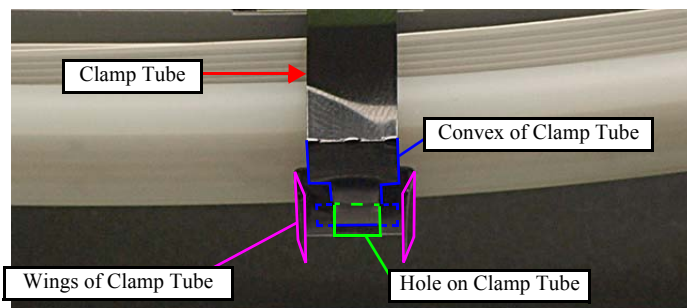

Figure 4-81. Installing the Clamp Tube
- Secure the convex sections (x2) of the Clamp Tube into the hole of it from outside to inside as shown in Fig. 4-81.
- Fold the wings inward as shown in Fig. 4-81.